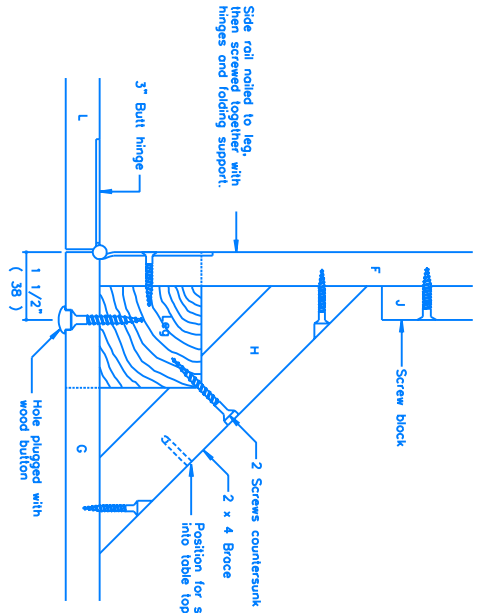

FIGURE 4
- Using one of your butt hinges as a template, chisel out the mortise for the hinges in pieces F and L as shown (Fig 4). Ensure you sand the top pieces D at 30 degree angle to each other or you will not be able to pre-drill through J and slightly into F with twelve 1/8" holes, six each. Glue and screw together with twelve #8 1 1/4" flathead screws. Pre-drill through the hinge and piece F with 1/8" holes where the holes line up when the hinge is inserted into the mortise. Attach the JF assembly to the table legs by screwing through the hinge and piece F into the table legs with #8 1 1/4" flathead screws, or with the hardware provided with the hinge providing it is long enough. You may wish to pre-drill into the leg with a 1/16" bit to prevent splitting. Pre-drill and countersink two 1/8" holes in each of the ends of pieces G, 1 1/2" in from the ends, countersink with a 3/8" drill with enough depth that you will be able to insert wood buttons. Glue and screw pieces G to the table legs with eight #8 1 1/4" flathead screws. We recommend this assembly be done with the legs upside down to ensure the top pieces C, if excess glue with the legs down, will not fall into the wood buttons and wipe off excess glue with the assembly still inverted. Place in piece H to ensure it fits. Remove and pre-drill with two 1/8" holes to intersect the leg, countersink. Place a bead of glue in the notch, and on each end, re-insert, and screw to the leg with two 1 1/4" screws. Pre-drill one hole in each of the ends so that a screw will intersect pieces F and G, countersink, and attach with two 1 1/4" screws. Repeat for each piece H. Attach pieces L by using #8 5/8" flathead screws through the hinge already attached to piece F. You will have to chisel slightly on the edge of G to allow for the hinge pin. Ensure that the top edges (now the bottom edges as the table is upside down) of F, G, H, E, and L remain flush throughout this procedure to ensure the table top will remain flat. Now wipe off excess glue, turn the table over, ensure the table remains square, and allow the glue to set for at least two hours.